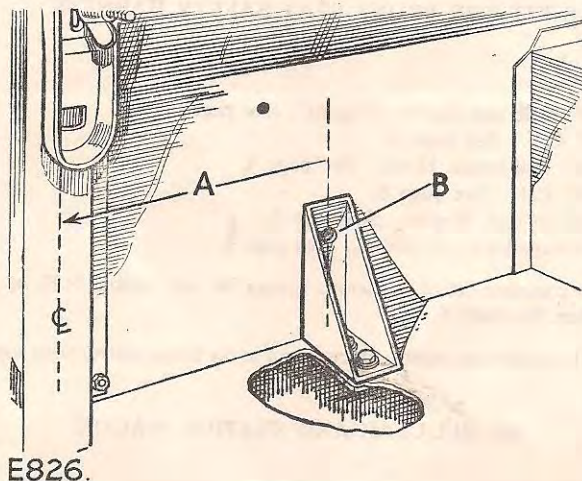

Fig. 2. Bulkhead gusset in position. R.H. illustrated.
5. Mark off a centre line of vehicle on body floor, adjacent to seat bulkhead—then mark a position $10\frac{1}{4}$ in. (260 mm) from the centre line toward body side, as shown in Fig. 2.